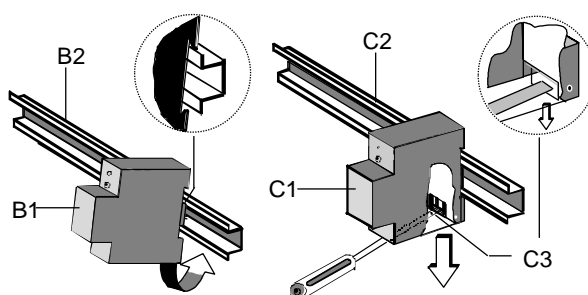

Figure 2: Mounting and dismounting a DIN-rail device
5.2. Mounting DIN-rail devices (Figure 2)
Slide the device (Figure 2, B1) onto the DIN-rail (Figure 2, B2) and swivel back the device until the slide clicks into place audibly.
5.3. Dismounting DIN-rail devices (Figure 2)
Press down the slide (Figure 2, C3) with a screw-driver and swivel the device (Figure 2, C1) from the DIN-rail (Figure 2, C2).